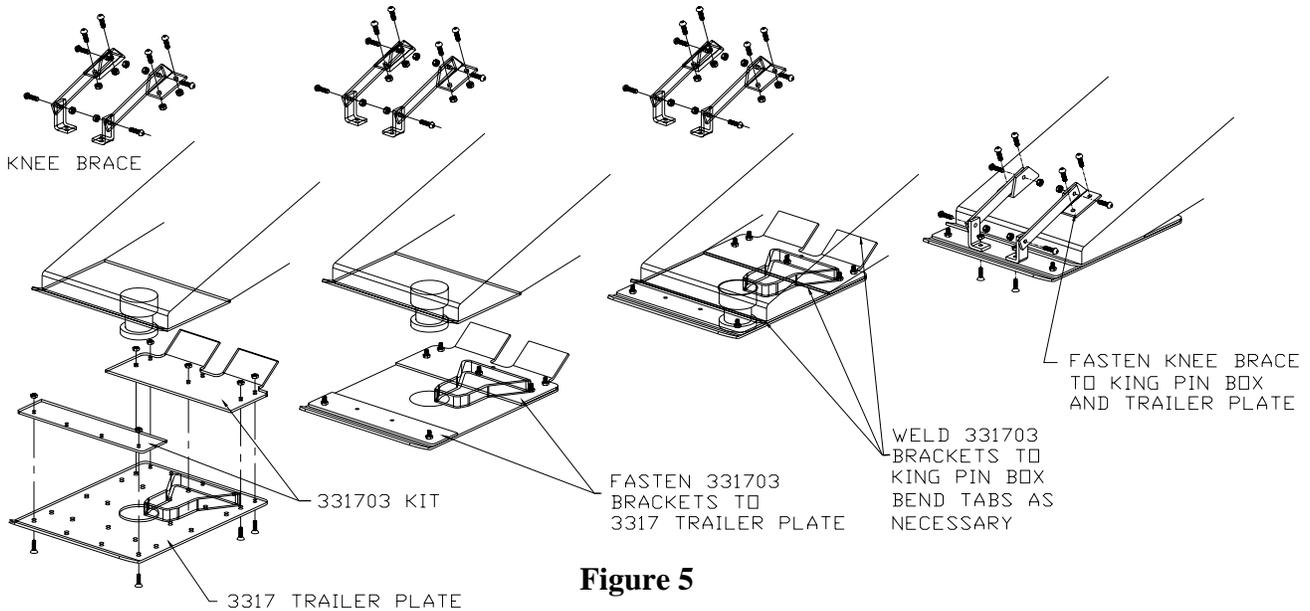

Figure 5
FOR KING PIN BOXES THAT ARE SHORTER FRONT TO BACK: (Figure 5)
1. Place the Trailer Plate {J2} over the king pin, with the guide wedge towards the rear of the trailer (wedge facing down), and measure the distance from the front and rear of the king pin box to the respective edges of the Trailer Plate {J2} (to the bend of the Trailer Plate {J2} in the front). Referring to Figure 5, fashion two plates, 3/16" to 1/4" thick, that will cover the holes of the Trailer Plate {J2} showing in front and rear of the king pin box.
6. See Figure 5 on the next page for diagram and special notes.